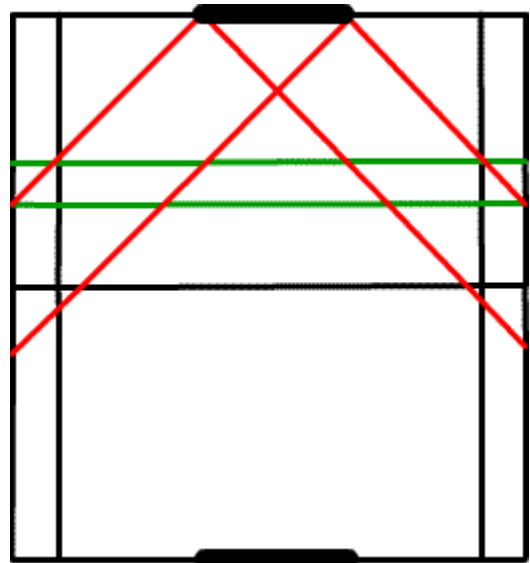

Figure 4: Dividing the field
When we arrive at this point of the program, the robot is standing still, with his nose towards the goal of the opponent. Next thing we want the robot to do, is crossing at least the first green line (figure 4). We want the robot to cross that line because the ball is quite unbalanced (which implements that the ball might change its direction after the robot shot it to the goal, if the distance between (the nose of) the robot (where the shooter is) and the target is too large.) In the program, this is done with the procedure "NRAANVALSBAND". However, it is possible that the robot has already crossed that line. In that case, the robot doesn't have to move laterally. In the procedure "NRAANVALSBAND", the lateral position of the robot is saved to the parameter "AANVALSBAND". When the procedure "NRAANVALSBAND" is finished, there are only two options for this lateral position. The robot can stand between the first and the second green line or across the second green line.
- * When the robot is in the dark blue plane, the robot has to rotate 45° CW (check the figure 4,5 to understand)
- * When the robot is in the red plane, the robot has to rotate 45° CCW (check the figure 4,5 to understand)